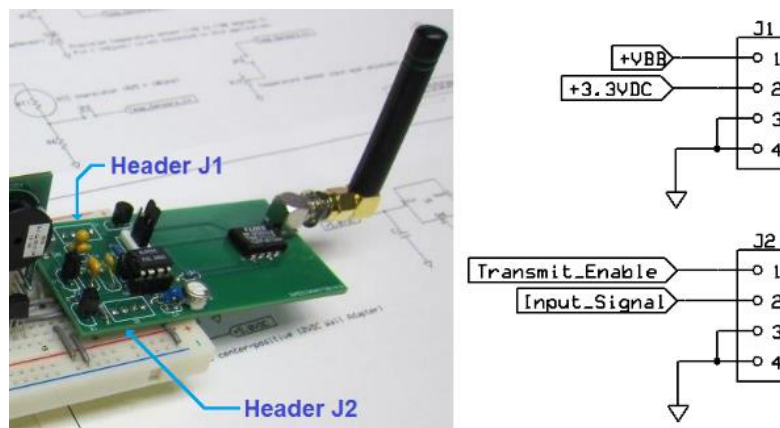

Figure 5: Transmitter Module Pin in and Pin Out
Figure 5 shows the pin-in/pin-out of the Simple 315MHz Transmitter Module. Four-position pin strip headers J1 and J2 are soldered to the ground plane side of the transmitter module PCB, allowing horizontal mounting of the module into a section of breadboard, or permanent connection to a user's PCB.
The Simple 315MHz Transmitter Module is designed to operate with a quarter wave 315MHz whip antenna with a **reverse-polarity (RP) subminiature version A (SMA)** connector. This small coaxial connector and whip antenna connect at the right-hand end of the transmitter module, as seen in Figure 5. The Linx ANT-315-CW-HWR-RPS antenna, included with the Simple 315MHz Transmitter/Receiver Pair, is designed to be swiveled into an upright position while the transmitter module is mounted horizontally on a breadboard or PCB.